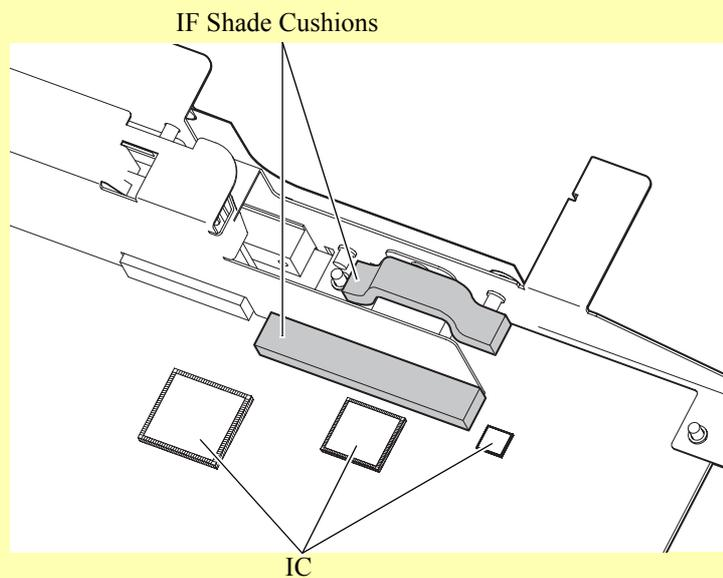

Figure 4-21.
- 3). Attach the IF Shade Cushions on the positions shown in Figure 4-21. Make sure that the IF Shade Cushion is not overlapping the IC (Integrated Circuit).